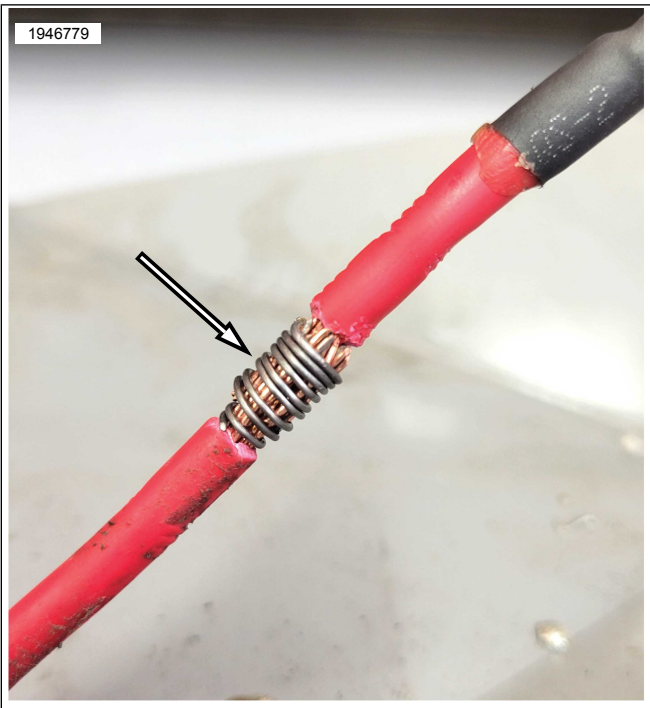
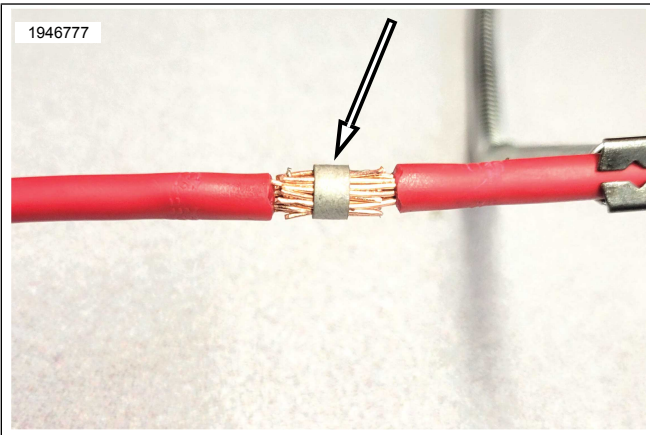

Figure 17. Prep 3: Wrap Joint with Thin Gage Wire
Figure 18. Prep 3: Wrap Joint with Wire Ring
- e. See Figure 17 or Figure 18. **PREP 3:** Wrap joint with thin gage wire **OR** wire ring.